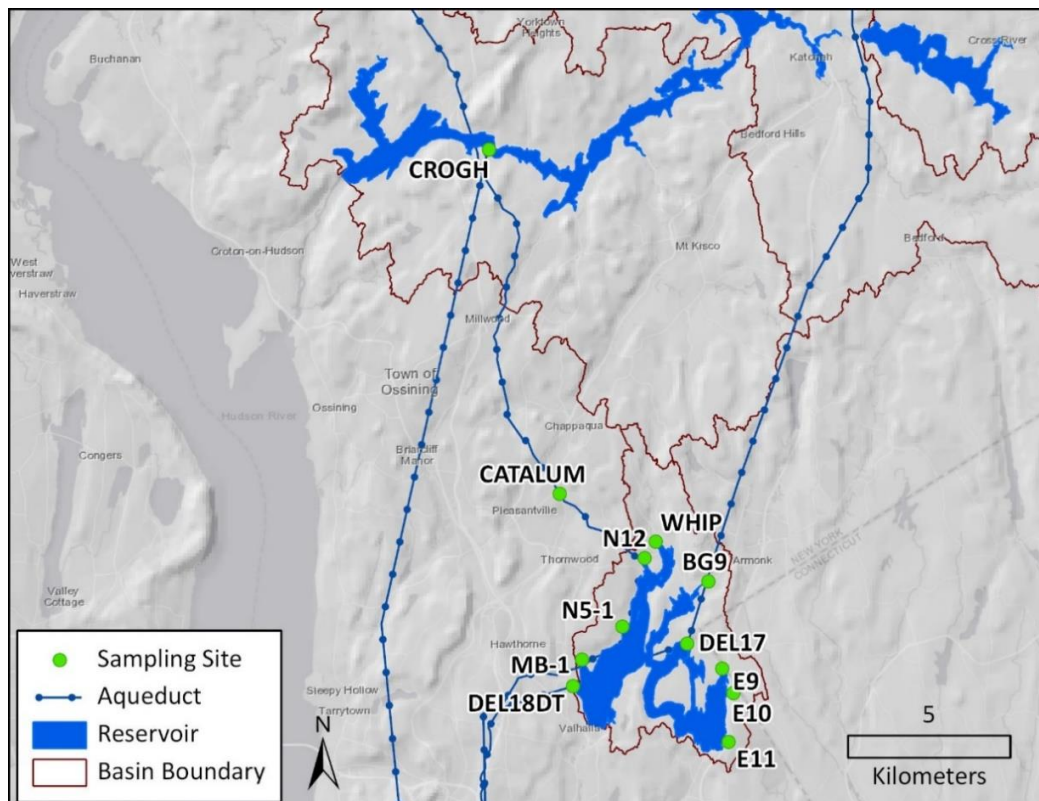

Figure 1. Proposed sites for the Emerging Contaminant Monitoring Project.
8.4 Map of Monitoring Sites (Figure 1)